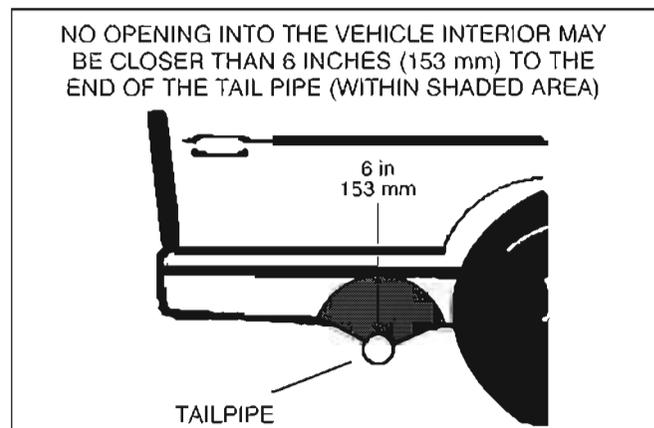

FIGURE 8-7. MINIMUM DISTANCES TO OPENINGS
7. Do not terminate the tail pipe such that it is closer than 6 inches (153 mm) to any opening, such as a door, window, vent or unsealed compartment, into the vehicle interior (Figure 8-7)